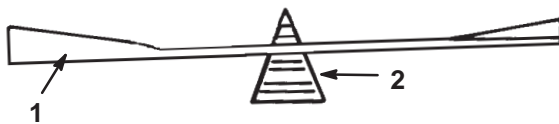

Figure 29
2. Check the balance of the blade by putting it on a blade balancer (Fig. 29). If the blade stays in a horizontal position, the blade is balanced and can be used. If the